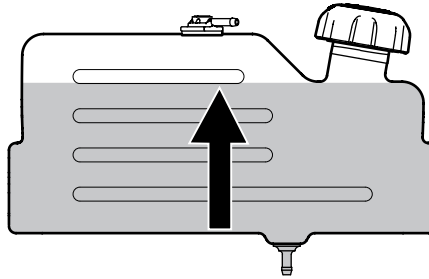

Figure 2-9
2. Fill the fuel tank with gasoline. Use only clean, fresh (no more than 30 days old), unleaded gasoline. Fill tank to the base of the filler neck to allow space for fuel expansion. **DO NOT TOP OFF THE TANK WITH FUEL.** See Figure 2-9.